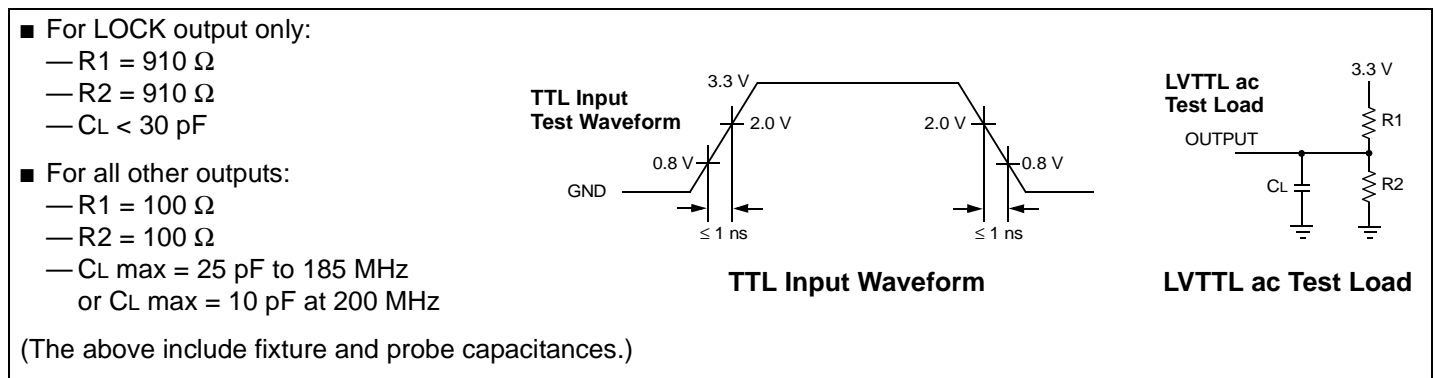

Figure 7-1. ac Test Loads and Waveforms
**Note:** Figure 7-1 is for illustrative purposes only. The actual ATE loads may vary.